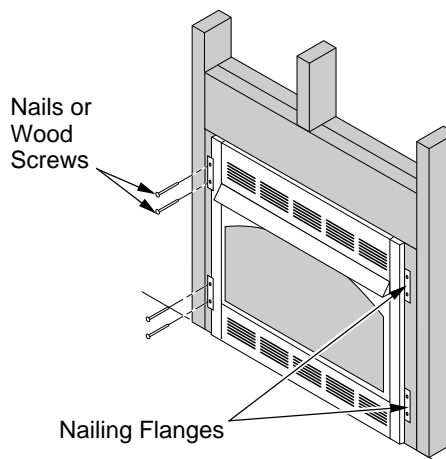

Figure 15 - Attaching Fireplace to Wall Studs (VYGF33PRA Shown)
8. Attach fireplace to wall studs using nails or wood screws through holes in nailing flange (see Figure 15).